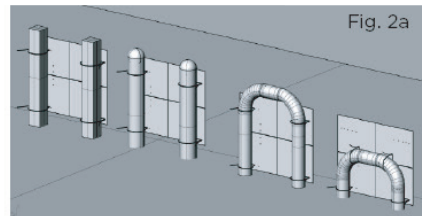

Fig. 2a
- Unique shaped bollard poles (refer to figure 2a)
Step 2. Locate and determine the type of bollard at your location. Square, Round, Tall U and Short U. (Fig. 2a)